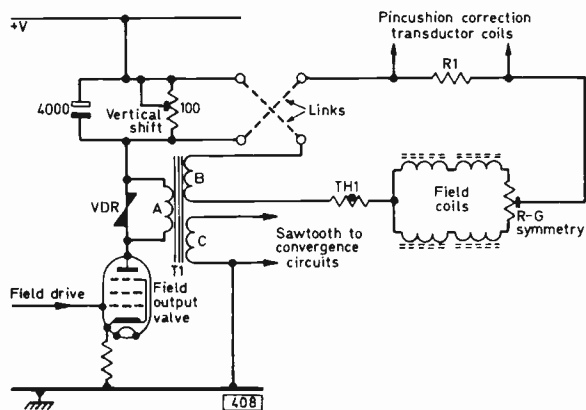

Fig. 1: The usual vertical shift control system used in sets with a valve field output stage.
One method of vertical shift is shown in Fig. 1 and this arrangement, sometimes with slight variation in detail, is often found in receivers using a valve field output stage. T1 is the field output transformer and the primary (A) is connected to the h.t. supply via the 100Ω variable resistor which constitutes the shift preset. Current flowing from the valve anode through this resistor produces a voltage across the resistor of value depending on the setting of the slider. Since the resistor is heavily decoupled by the $4,000\mu\text{F}$ electrolytic the 50Hz scanning current in the primary circuit is hardly affected by the presence of the resistor. The voltage drop across the resistor reduces the voltage swing slightly but in practice this is only of the order of some 2V or so.
An alternative arrangement used with valve field timebases obtains the d.c. shift from the cathode circuit of the field output valve. This is fairly easy when the dead side of the field scan coils can be connected direct to an earthy signal circuit. The arrangement is used in Bang and Olufsen receivers, a simplified circuit being shown in Fig. 2. The vertical shift preset has a tapping which is returned to chassis through R1 at the centre of its track. Thus in the centre position cathode current flows to chassis direct through R1. The two outside tags of the preset are effectively across the field scanning coils so that when the slider is moved from track centre in one direction d.c. flows through the coils one way while when the slider is moved from track centre the other way the direction of d.c. flow is reversed. This is a better scheme than that shown in Fig. 1 since it makes it possible to shift the picture up or down without the need for the current reversing links.